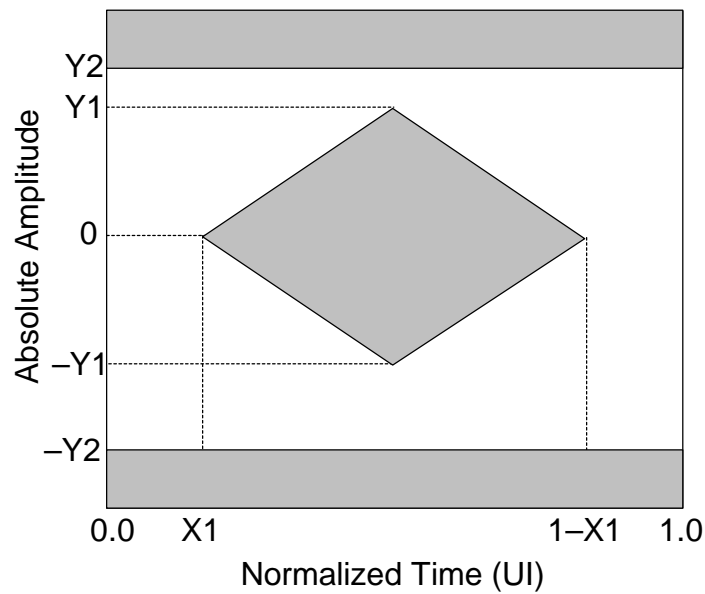

Figure 5. Transmitter Differential Input Mask (TD)
3. The jitter tolerance given in Figure 5 is in addition to the random and deterministic jitter given in this table.